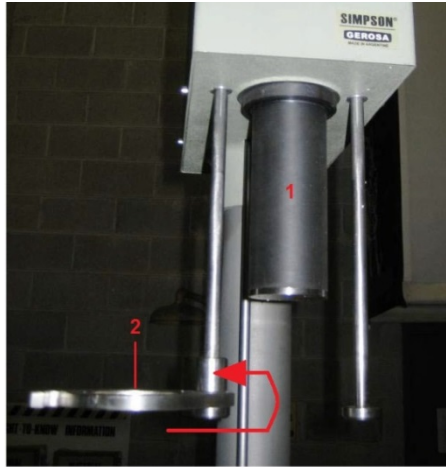

Figure 9: Stripping post base in open position (2); Stripping post (1)
5. Turn the stripping post base to its open position as demonstrated in Figure 9.